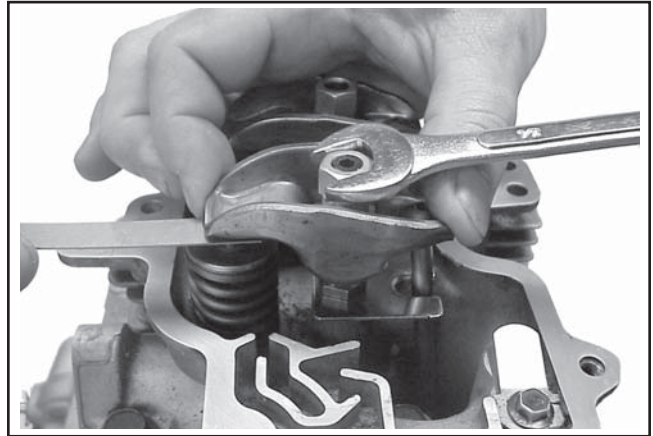

Figure 11-46. Adjusting Valve Lash.
- c. Insert a **.07/.12 mm (.003/.005 in.)** feeler gauge between the rocker arm and end of valve, and turn the adjustment nut "clockwise" (down) until a slight drag is felt on the feeler gauge. See Figure 11-46.